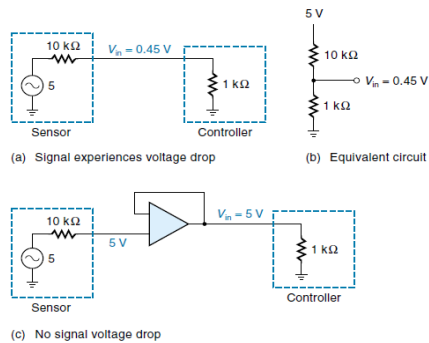

Figure 7.5 Using a voltage follower to prevent load down.
- Consider the situation shown in Figure 7.5(a). In this case, a high-impedance sensor (10 kΩ), is connected directly to a controller with a 1 kΩ input resistance. The sensor generates 5 V internally, but this is reduced by the voltage drop across the 10 kΩ internal resistance.
- A better solution is to insert a voltage follower near the sensor, as shown in Figure 7.5(c). Because the op-amp draws no signal current, there is no voltage drop across the 10 kΩ resistor, and the full 5 V enters the voltage follower and appears at its output. The 1 kΩ input resistance of the controller is so much higher than the output resistance of the op-amp that almost all of the 5 V will appear across the controller terminals.